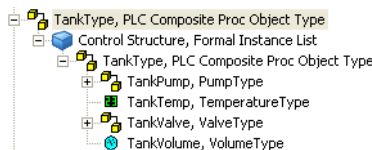

Figure 13. Added Pump and Valve Object Type Instances
28. In the Process Object Configuration aspect, again click the  button and add an instance of the 'ValveType' object type. Name the instance 'TankValve'. Figure 13 shows the result.